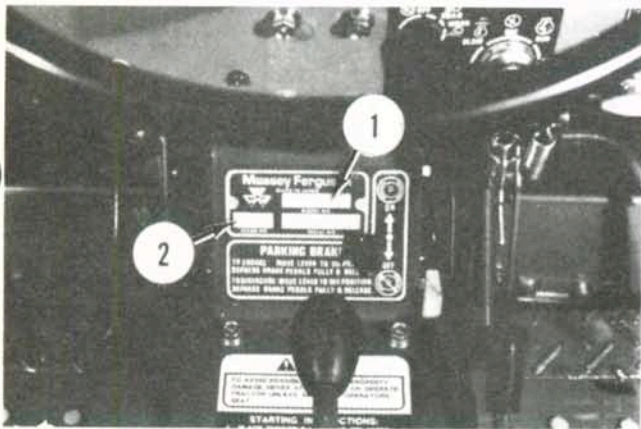
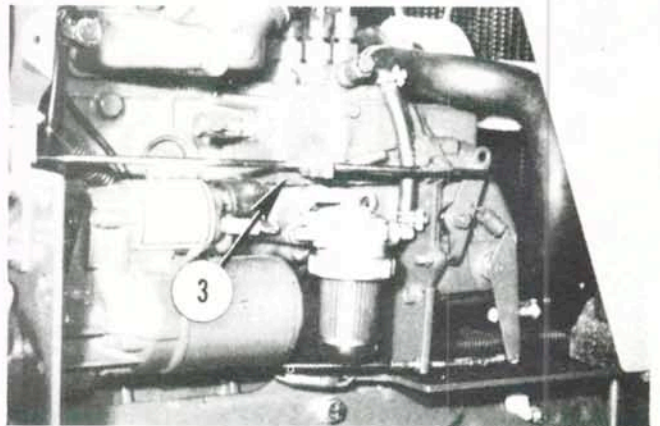
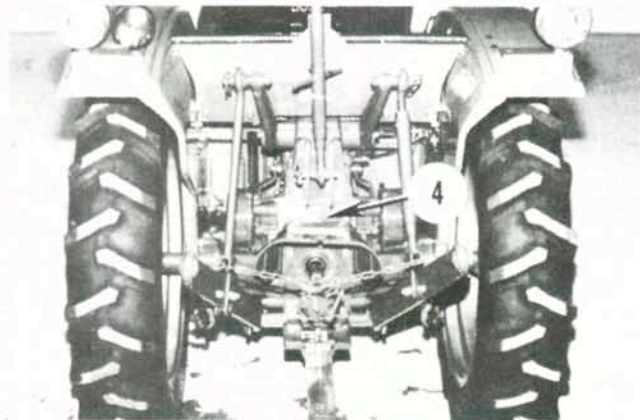

Fig. 1—The tractor serial number plate is located on the steering column below dash.
Fig. 2—Engine serial number is stamped on right side of engine.
Fig. 3—The chassis serial number is stamped on rear axle center housing.
The tractor serial number is located on a plate on the steering column below the dash (1—Fig. 1). The tractor model is located on plate at (2). The engine serial number is located on the right side of engine block (3—Fig. 2) and the chassis serial number is stamped into the rear axle center housing (4—Fig. 3).